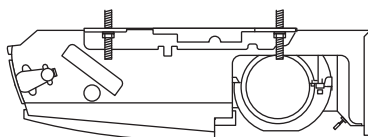

Fig. 3-15
- c) Tighten the 2 hexagonal nuts on each suspension bolt to suspend the indoor unit as shown in Fig. 3-15.